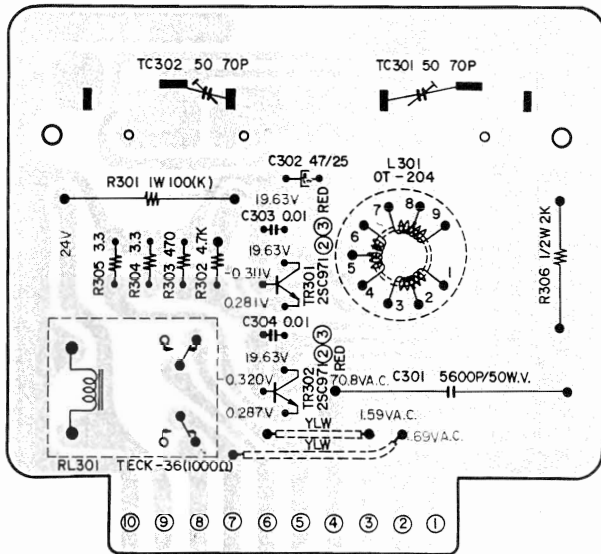

Fig. 23 OSCILLATOR P.C. BOARD KD-A5004
3. FREQUENCY RESPONSE ADJUSTMENT (See Figs. 23 & 24)